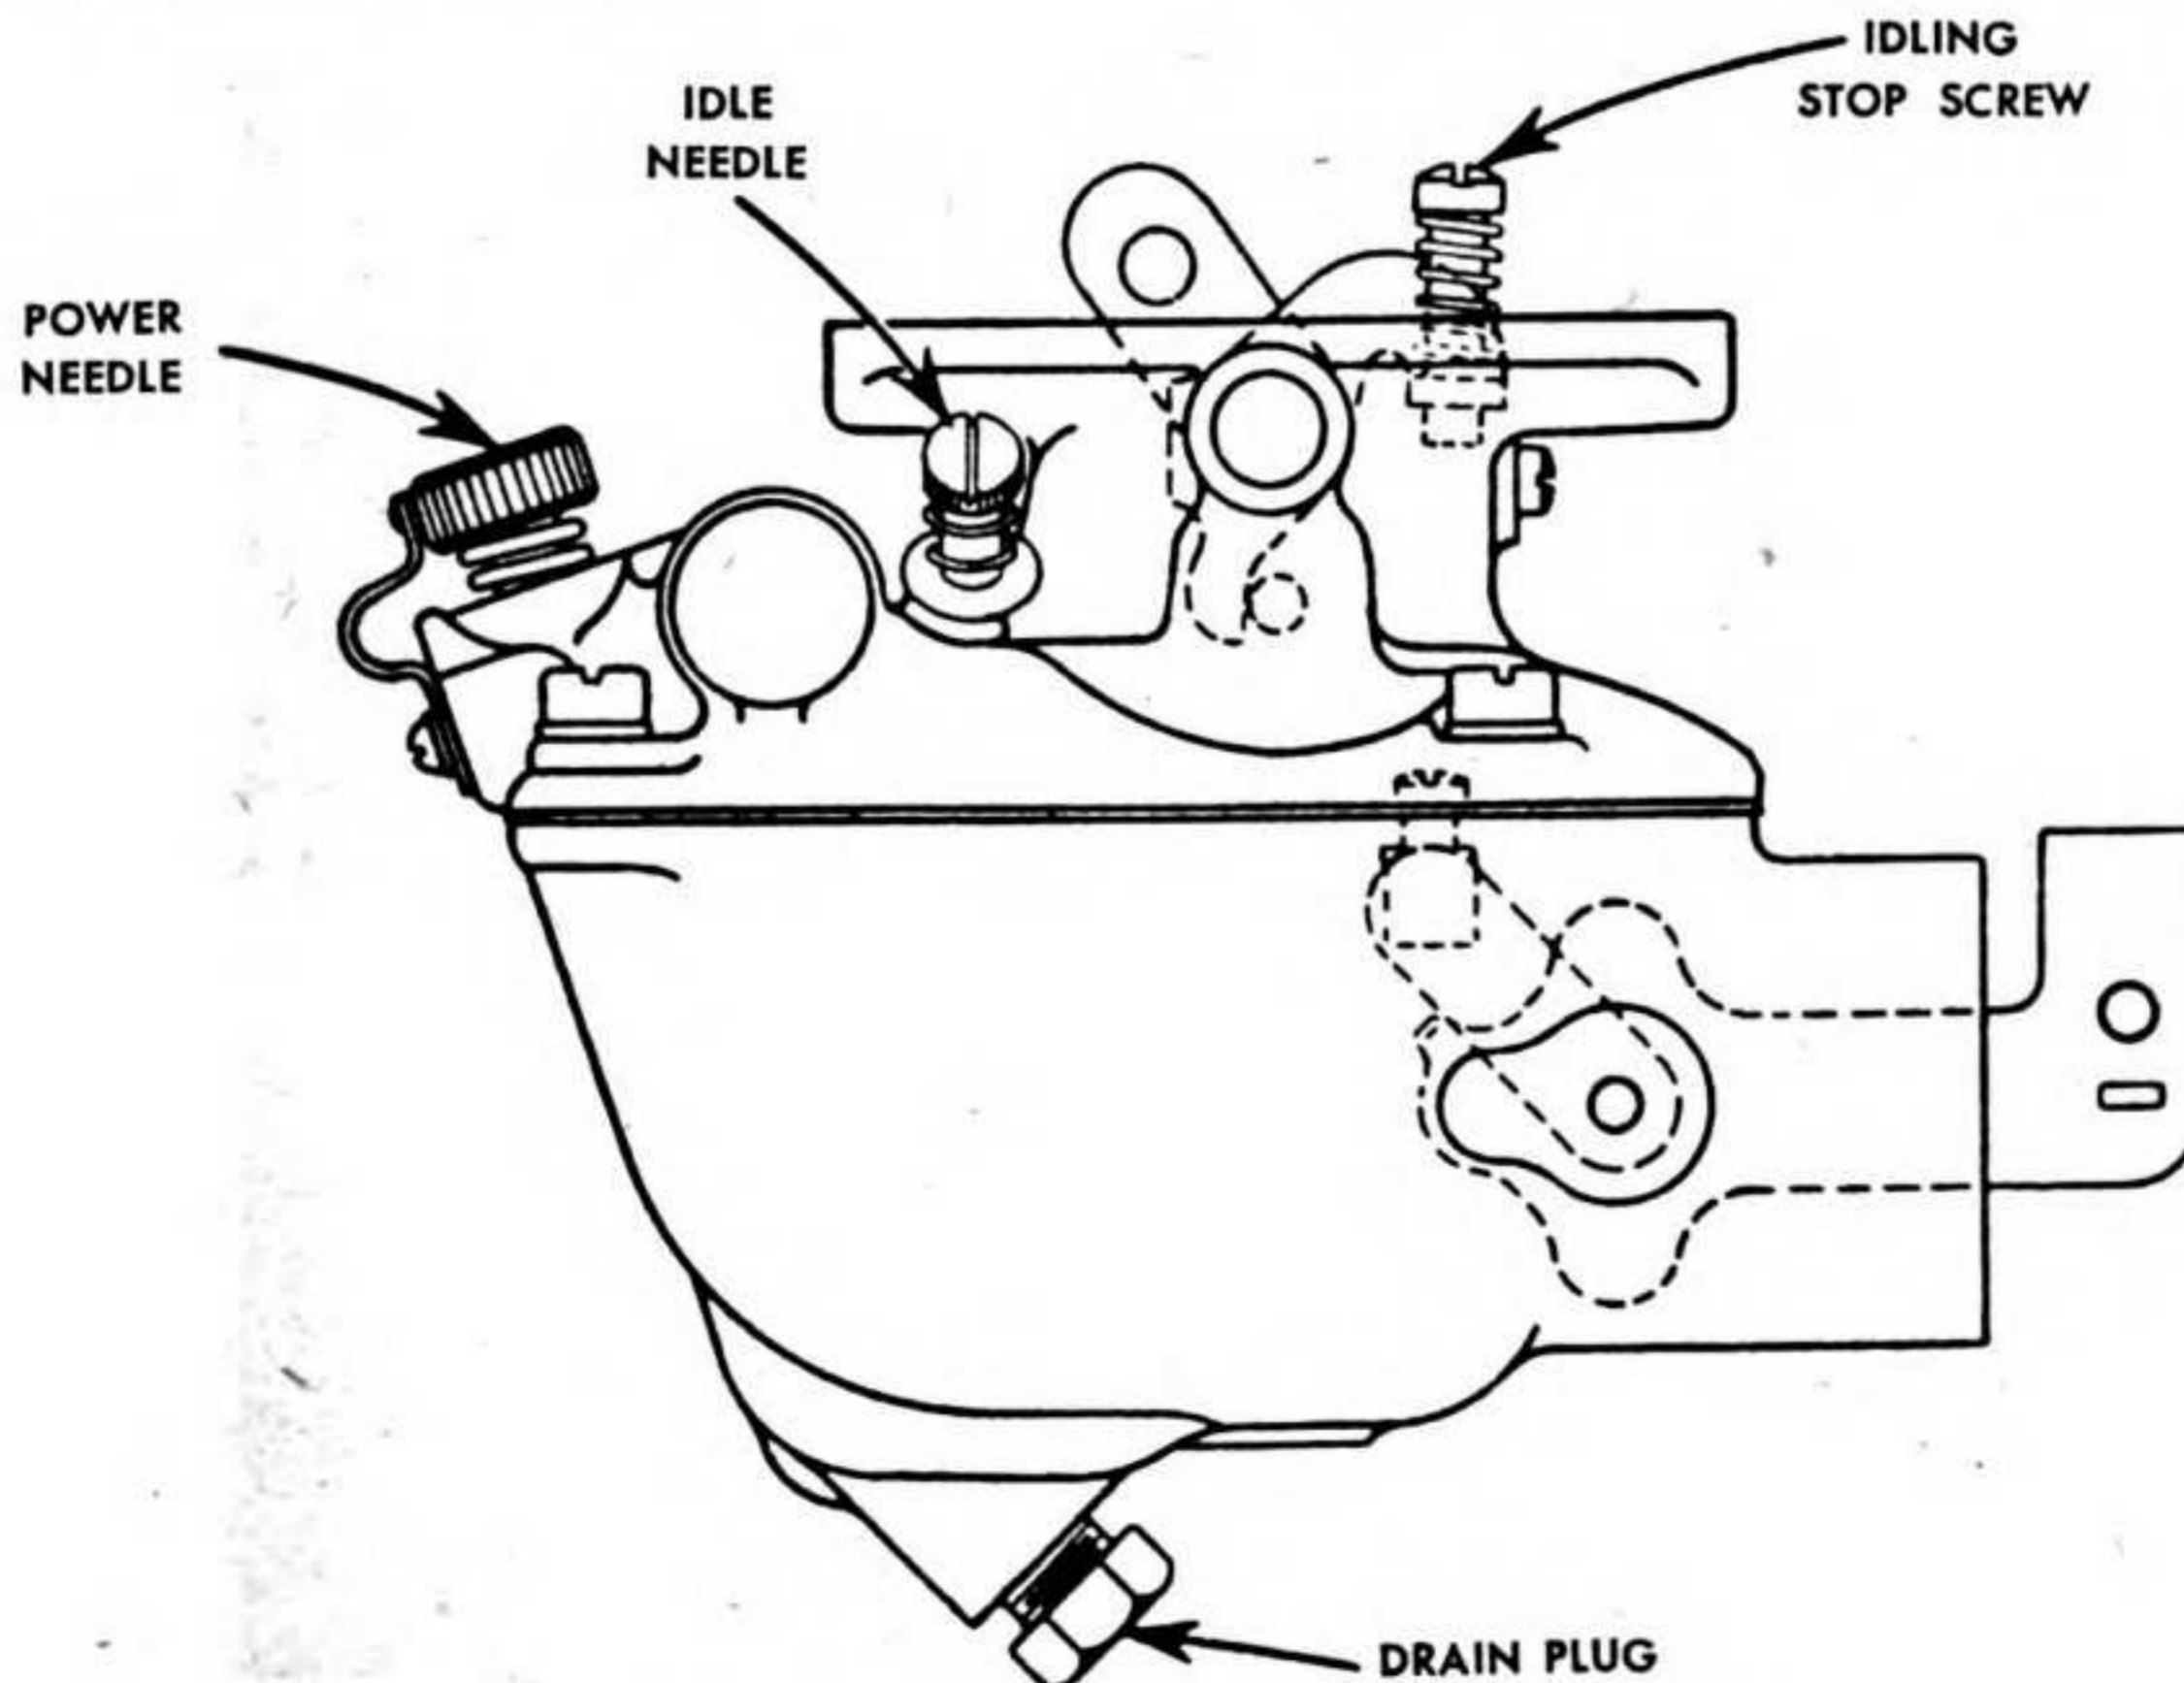

Figure 28 - Carburetor Adjustments
- (1) Power Needle Adjustment: While vehicle is under full load, turn the needle clockwise until engine begins to lope. Then turn needle back approximately one-half turn or until engine operates smoothly. See Figure 28 for location of needle.
- (2) Idle Adjusting Needle: Adjustment must be made when the engine is warm. Tighten screw and start engine. While engine is operating, turn screw counter-clockwise until engine runs smoothly. See Figure 28 for location of needle.
- (3) Idle Stop Screw Adjustment: The idle stop screw adjustment is located behind the intake manifold and secured to the throttle shaft on the side of the carburetor nearest the engine. While the engine is warm, turn screw clockwise until the desired engine idling speed is obtained.